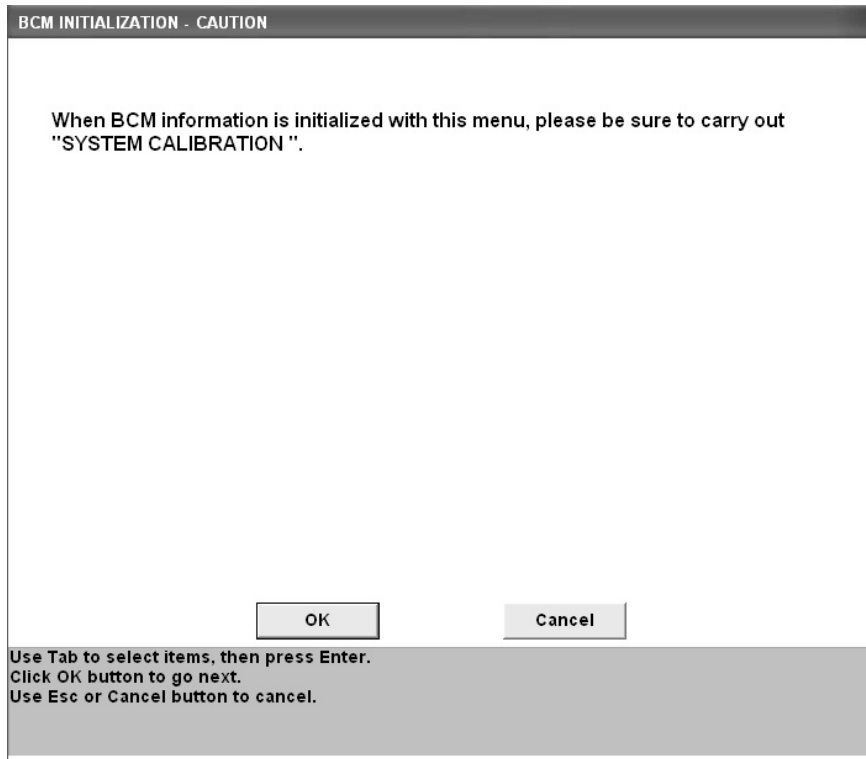

Fig.116
3. The following BCM INITIALIZATION-CAUTION window appears. (Fig.116)